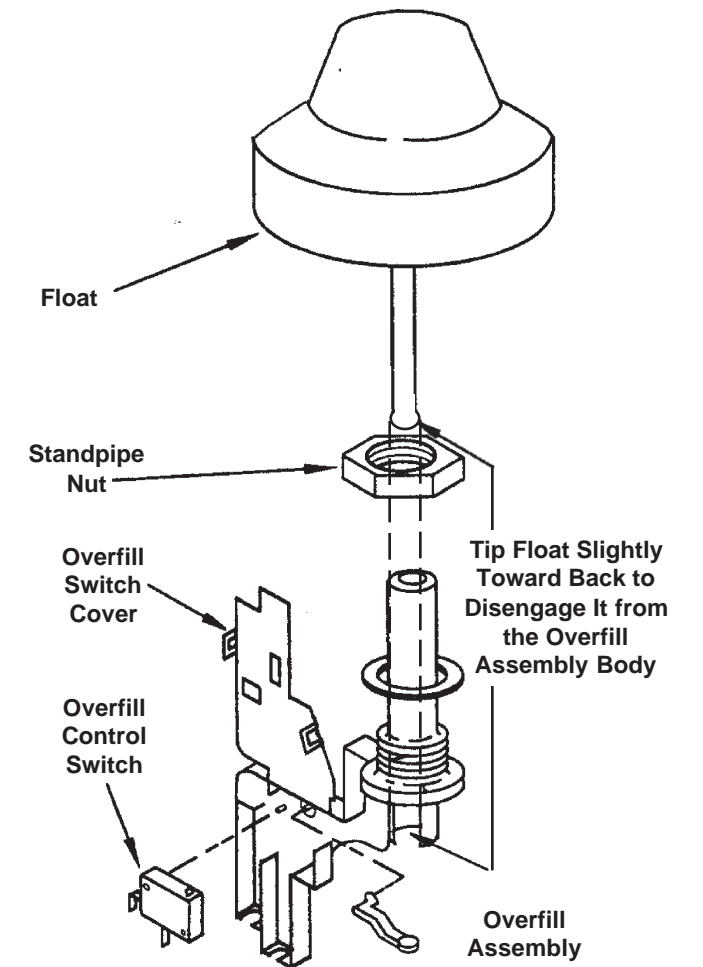

Fig. 3-15
2. Tip the float slightly and gently toward the back of the tub and lift up to disengage it from the overflow assembly body. (Fig. 3-15)